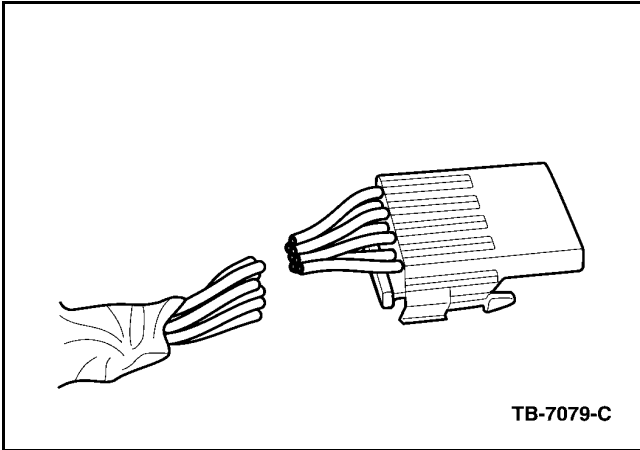

Figure 2 - Article 06-17-8
1. Cut each wire from the extra connector as close to the connector as possible (Figure 2).